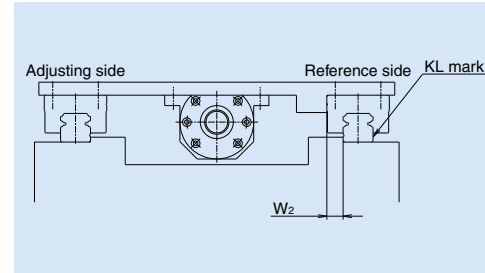

Fig. 10.2 Most common setting of the reference side rail
- When the datum surfaces of the reference side rail and slides are pressed to their mounting datum surfaces respectively, the variation of distance (mounting width W_2 or W_3) between the datum surfaces of the rails and that of the slides must be a minimum and therefore, it is specified as the standard. (Figs. 10.2 and 10.3)